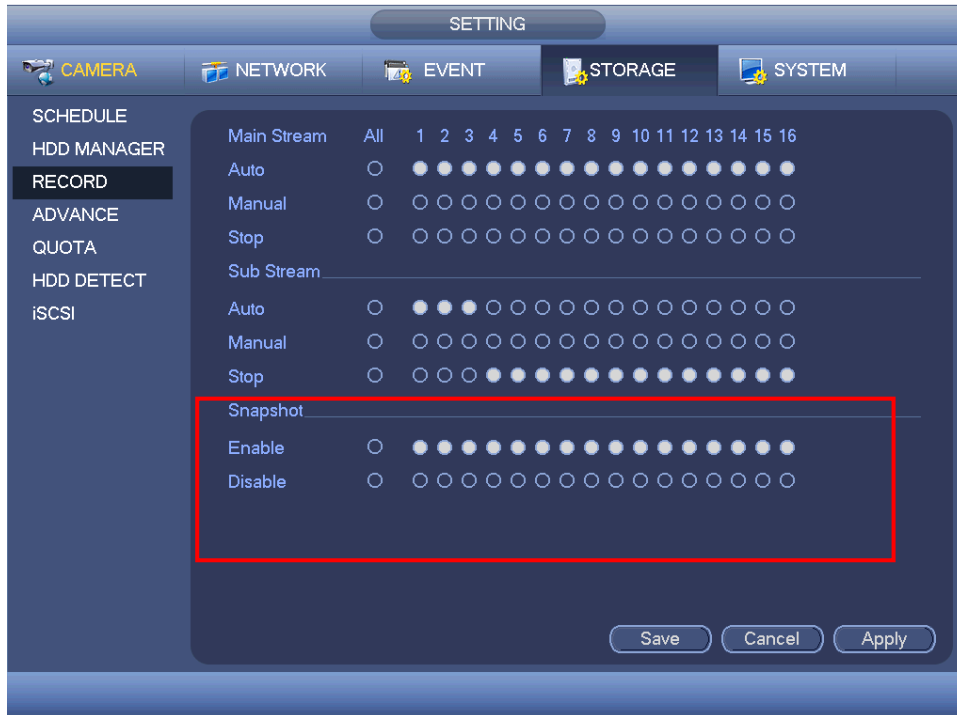

Figure 4-73
- On the preview interface, right click mouse and then select Manual->Record, or in the main menu, from Setting->Storage->Record, check the box to enable snapshot function of corresponding channels. See Figure 4-73.